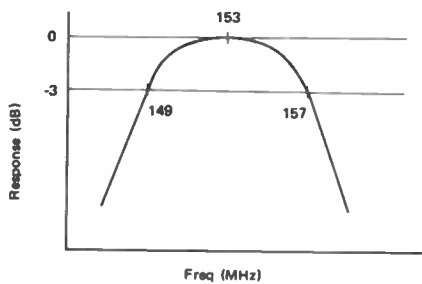

Fig. 4
- STEP-3 Adjust L6, L7, L8 and L9 of RF SECTION for maximum output and best symmetry curve. See Fig. 4